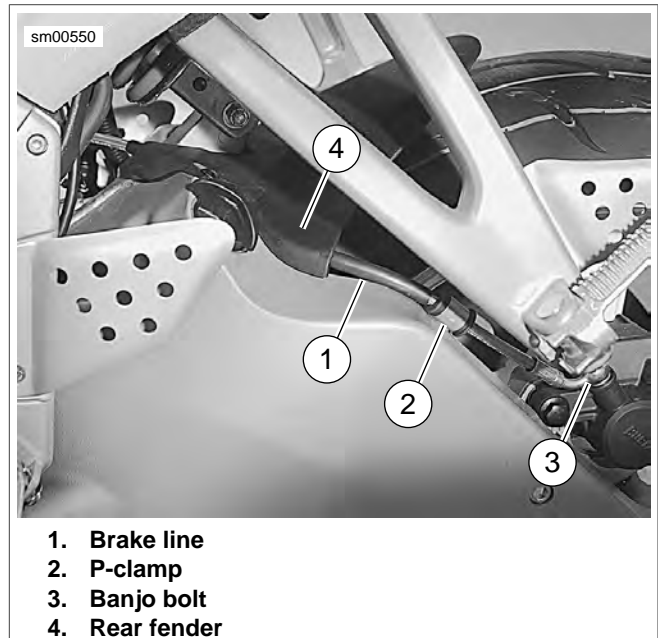

Figure 2-75. Rear Brake Line
7. See Figure 2-75. Remove p-clamp (2) securing brake line (1) to the left side of swingarm.
3. See Figure 2-75. Secure brake line (1) to left side of swingarm with p-clamp (2), and tighten to 36-60 **in-lbs** (4-7 Nm). See D.1 APPENDIX D: HOSE AND WIRE ROUTING for brake line routing.
- See Figure 2-75. Secure brake line (1) to left side of swingarm with p-clamp (2) and tighten to 36-60 **in-lbs** (4-7 Nm). See D.1 APPENDIX D: HOSE AND WIRE ROUTING for brake line routing.